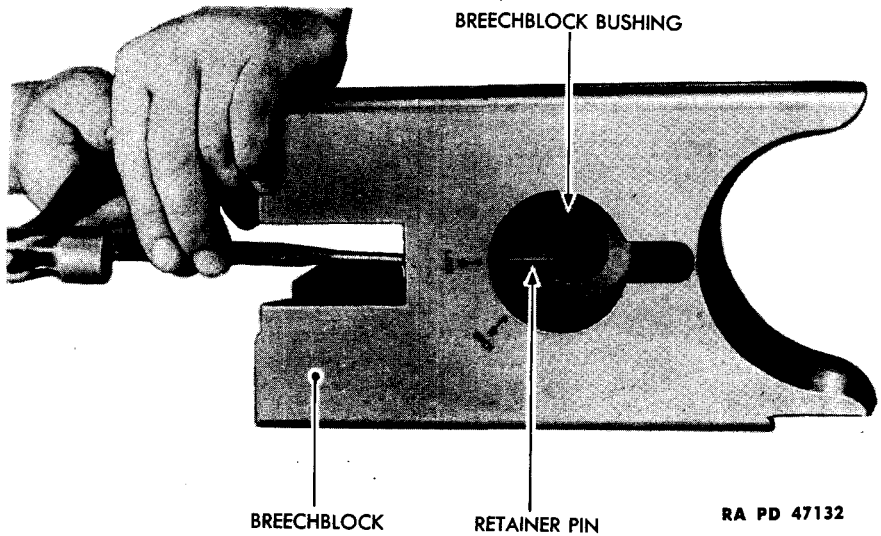
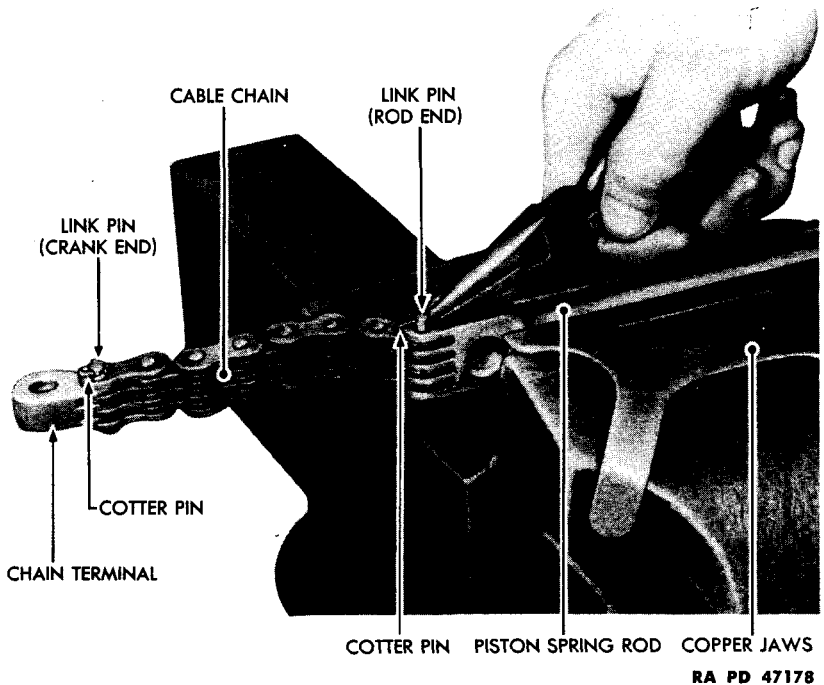

Figure 33 – Removal of Firing Spring Retainer Pin
Figure 34 – Removal of Chain from Closing Spring Piston Rod
f. Remove Firing Spring Retainer Pin (fig. 33). Place pin punch in hole provided in breechblock on the lower side of pin and drive the firing spring retainer pin, which is drive-fitted, toward opening in breechblock provided to house percussion mechanism.
g. Remove Chain from Closing Spring Piston Rod (fig. 34). Place closing spring piston rod in vise equipped with copper jaws. Remove cotter pin from link pin (rod end), then remove link pin from rod, thus disconnecting chain and terminal from rod. Remove cotter pin from link pin (crank end), then remove link pin from chain terminal and lift terminal from chain.
a. Assemble Closing Spring Piston Rod, Chain, and Terminal (fig. 34).
(1) Place closing spring piston rod in a vise equipped with copper jaws.
(2) Aline holes in end links of chain with holes in end of rod, then insert link pin (rod end) through holes provided in rod and holes in end links of chain. Secure link pin (rod end) in position by installing cotter pin through transverse hole provided in end of link pin.
(3) Aline holes in terminal with holes in end links of chain, then install link pin (crank end) through holes provided in terminal and end links of chain. Secure pin in position by installing cotter pin through transverse hole provided in link pin.
(4) Remove closing spring piston rod from vise and lay assembled rod carefully aside.
b. Install Firing Spring Retainer Pin (fig. 33). NOTE: If breechblock support tool B163786 is used when installing breechblock, breechblock must be installed before installing firing mechanism (par. 18). Aline firing spring retainer pin with lower end of hole provided in breechblock. Be careful to have pin properly alined in hole as installation is a drive fit. Tap pin gently to start pin in hole. Then drive pin into hole. Drive pin into hole provided in breechblock until pin extends $\frac{1}{8}$ inch into percussion mechanism housing in breechblock (fig. 33).
g. Install Firing Spring and Firing Spring Retainer. NOTE: This operation will be performed at this time only when breechblock support tool B163786 is *not* used. Place firing spring in the opening provided in percussion mechanism (fig. 25). Then place firing spring retainer on spring and compress spring into percussion mechanism (figs. 22 and 25). Hold thumbs on retainer (fig. 24). Aline scribe mark (arrow) on retainer with scribe mark (arrow) marked "OPEN" on breechblock. When retainer is properly seated, turn retainer until scribe mark on retainer is alined with scribe mark on breechblock marked "LOCK." Slot provided in retainer (fig. 25) is now engaged by pin (fig. 33).